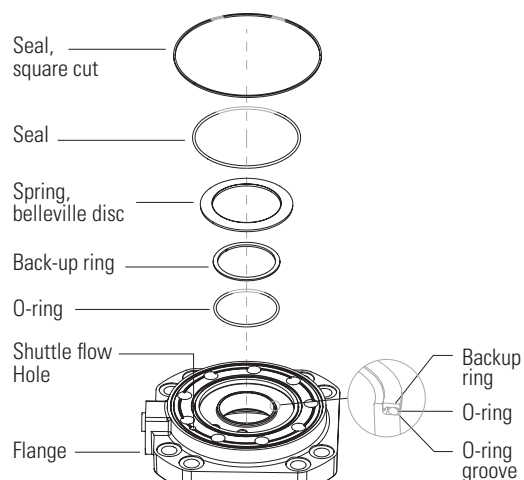

Figure 3
14. With mounting flange o-rings grooves up, install two o-ring seals (150,8 [5.94] ID & 107,7 [4.24] ID) into flange. Install back up-up ring (69,5 [2.74] OD) over o-ring (63,2 [2.49] ID) with flat side up (See Figure 3). Back-up ring and o-rings may be greased to assist in retaining parts.